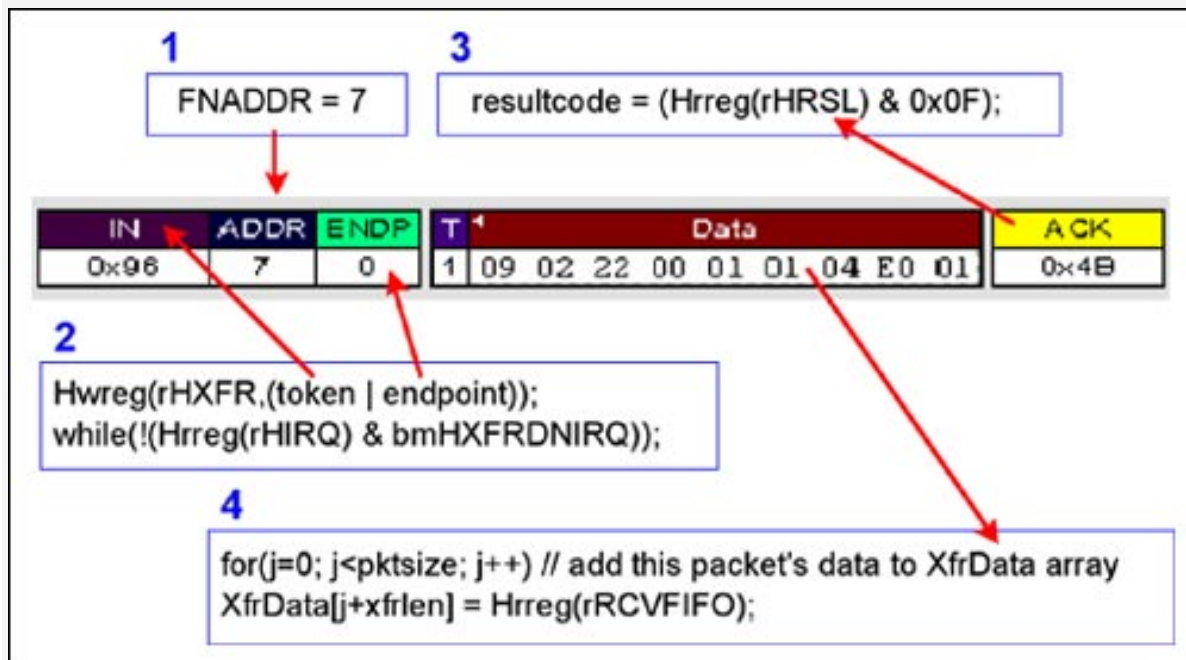

Figure 9. C function calls to the MAX3421E cause this USB bus activity.
This function is called by all functions that send USB packets. **Figure 9** shows the bus trace for an IN transaction and the C statements that produce it.
This function checks the 4-bit HRSL value (item 3 in Figure 9) to print the outcome of the last host transfer. If the passed value is zero, it prints nothing. It returns the HRSL value so the calling function can easily check for an error, e.g.,